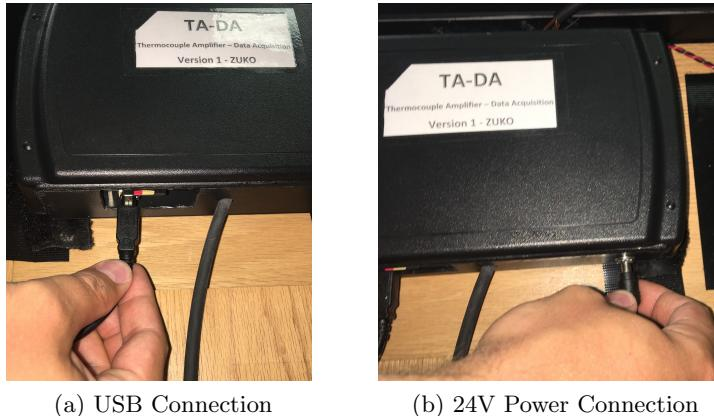

Figure 3: TADA Connections
5. Connect the TADA to the lab computer via the USB cable mounted under the edge of the hood (see Figure 3)
6. Plug in the 24 volt power supply to the TADA (see Figure 3)